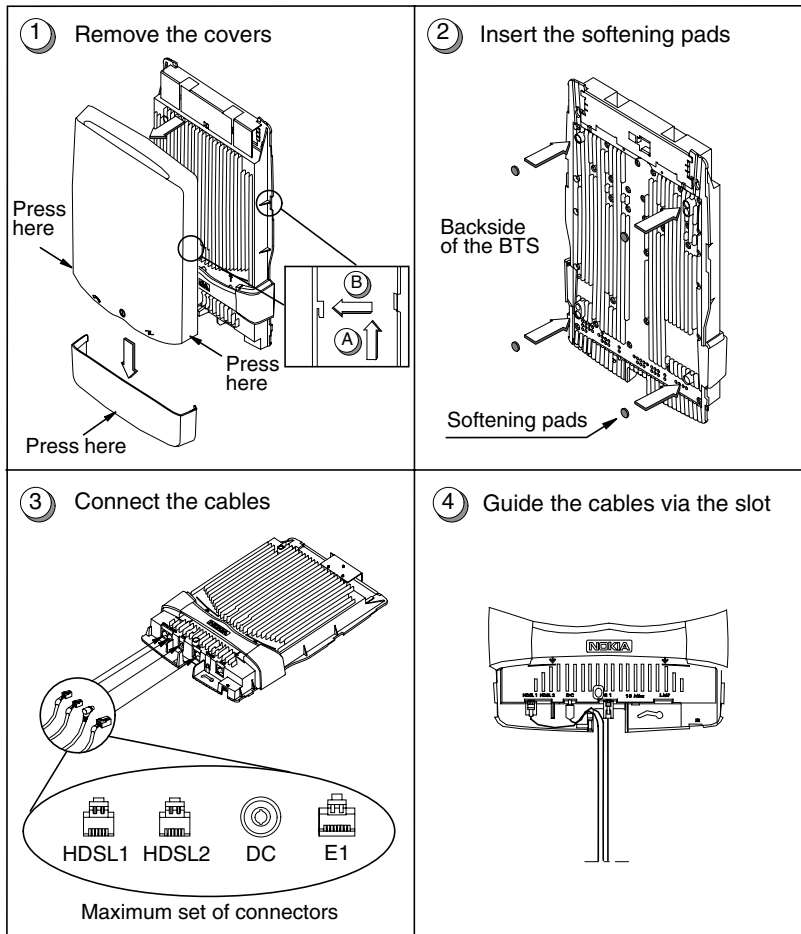

Figure 12. Installing the BTS (continues in Figure 13)
1. Remove the connector cover and the antenna cover by pressing gently. The pressing locations are shown in 1 of Figure 12. Lift the antenna cover upwards and pull the connector cover downwards.
2. Insert the softening pads to the backside of the BTS. See 2 of Figure 12.
3. Connect the BTS cables according to the chosen transmission configuration. See 3 of Figure 12.
4. Guide the cables via the slot in the BTS. See 4 of Figure 12.